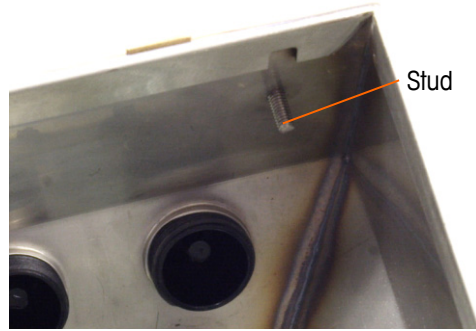

Figure 2-10: Stud for Attaching Reversed Front Panel
7. Carefully rotate the rear of the enclosure 180 degrees and reattach the two grounding straps to the two studs near the grip bushings using the two nuts removed in the previous step. Figure 2-10 shows one of the studs. Tighten the two nuts.